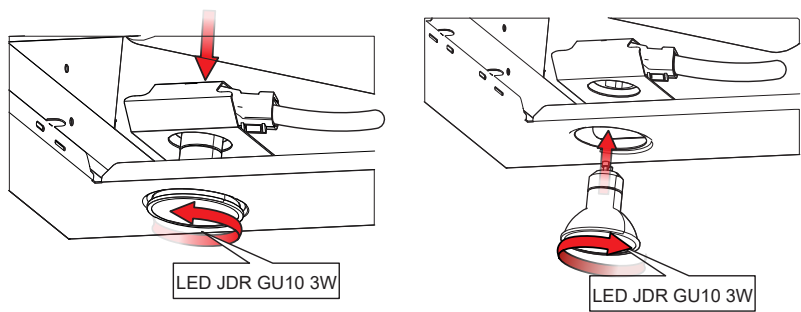

Fig. 8
- 3. Remove the lighting as shown in Fig. 8